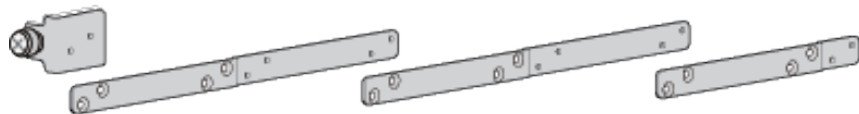

Figure 80. Extension Bracket Configurations
You adjust the lengths of the brackets by connecting them in different combinations. There are seven possible configurations. Refer to Figure 80. The default configuration is number 5. To adjust the extension brackets, perform the following procedure:
1. Review Figure 80 to find the bracket length that most closely matches the measurement taken in step 3 in the previous procedure.